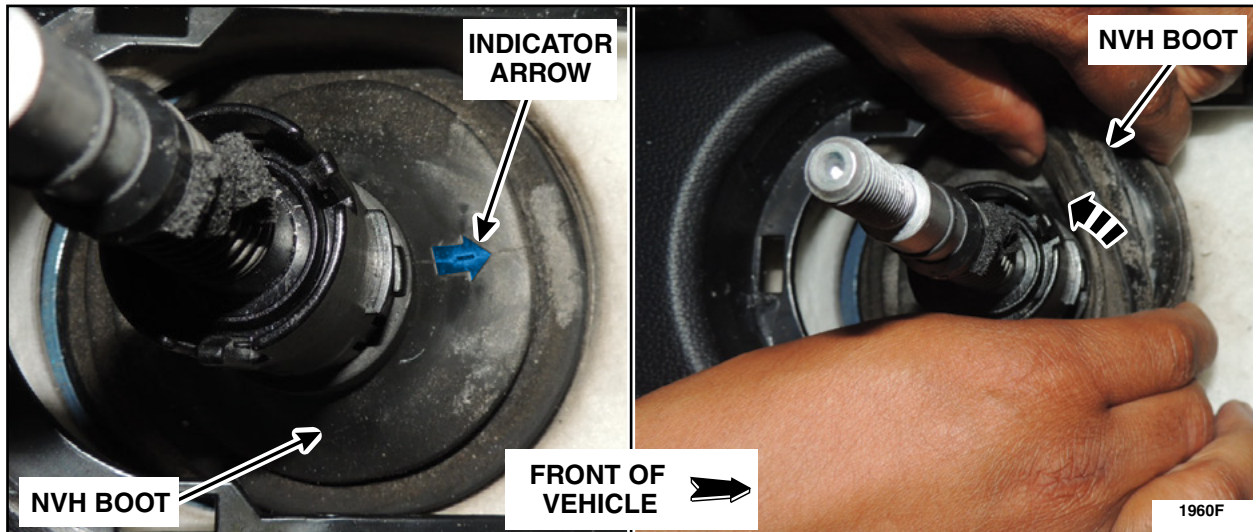

FIGURE 5
5. Remove the rubber NVH boot by prying upwards on the front portion. See Figure 5.